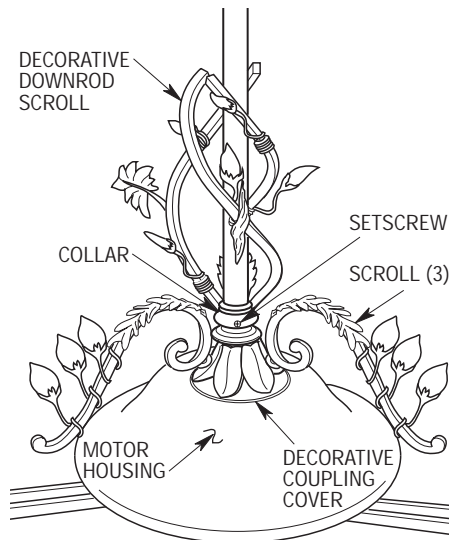

Figure 9
- 14. Position the three scrolls on the decorative coupling cover so that they are vertical, then tighten the nuts on the inside of the coupling cover. Make sure the grommet is properly installed in the decorative coupling cover, then slide the coupling cover over the downrod until it rests on the motor housing (Figure 9).
- 15. Using the hex wrench (supplied), unscrew the setscrew in the decorative downrod scroll collar until it clears the inside of the collar. Slide the collar over the downrod (Figure 9), until it rests on the coupling cover, then tighten the setscrew.